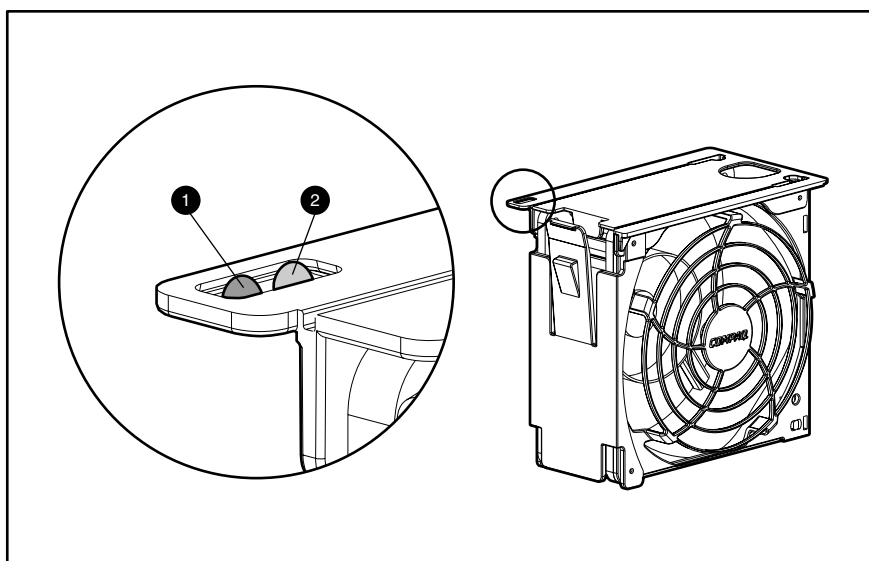

Figure 4-7. Hot-plug I/O fan LEDs
Figure 4-7 shows the location and identification of the hot-plug fan LEDs.
**NOTE:** The hot-plug fan LED indicators are not part of the fan housing. Figure 4-7 shows the LED indicators as if the fan were installed in the server.